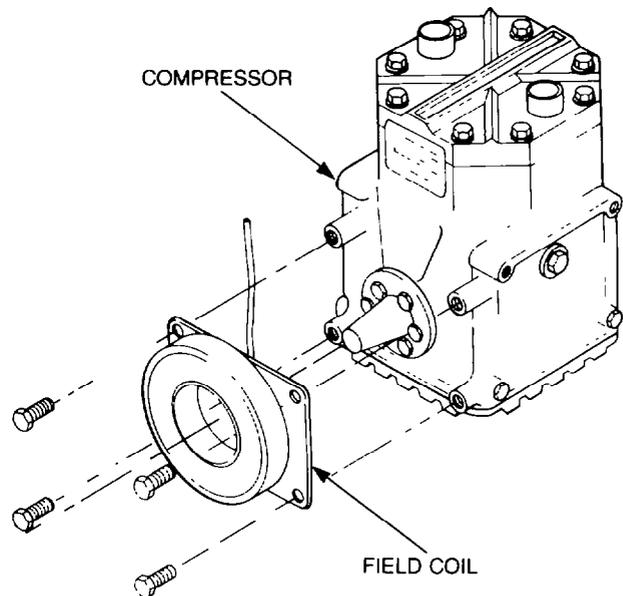

Figure 332 — Field Coil — Removal
- b. Remove the Woodruff key from the crankshaft, then remove the four bolts securing the field coil to the crankcase (see Fig. 332).